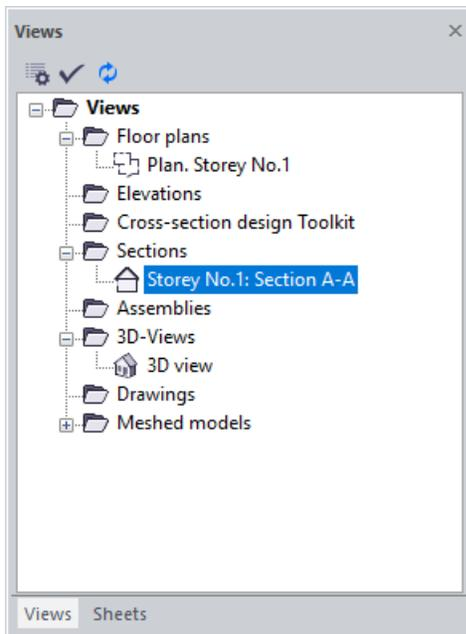

Figure 27.12. How to open the section A-A
- ➔ In the **Views** window (see Fig. 27.12), double-click the **Storey No.1: Section A-A** row in the **Sections** folder.